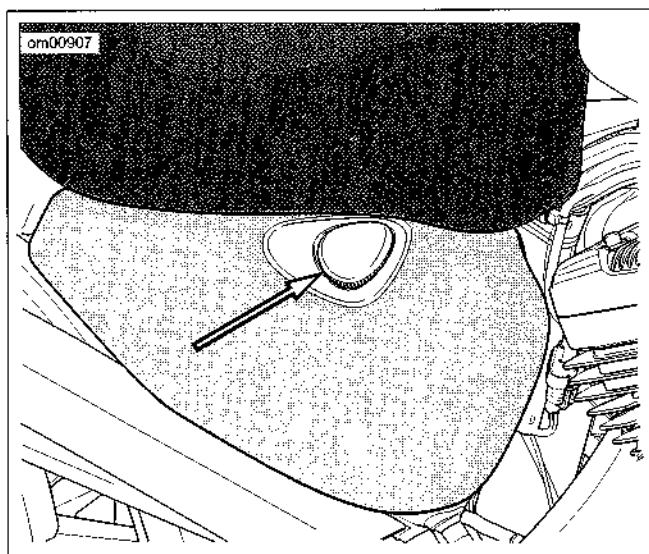

Figure 1-1. Filler Cap Location
2. See Figure 1-1. Remove the filler cap from the oil tank.